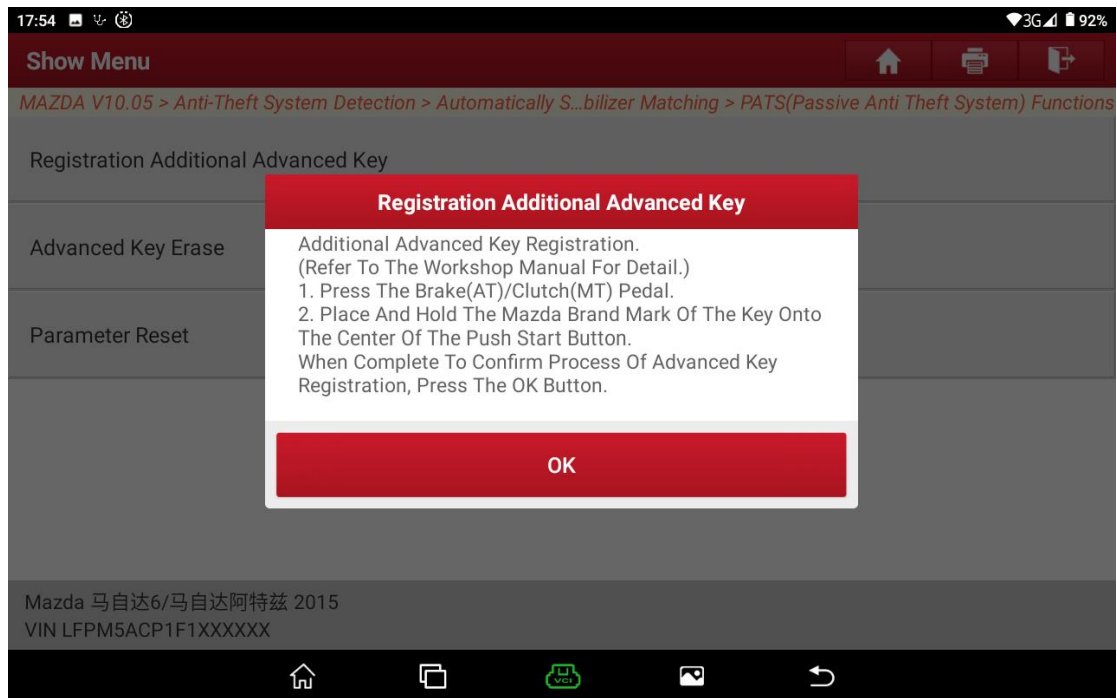

Figure A14
12. The operation details are displayed. See Figure A14.